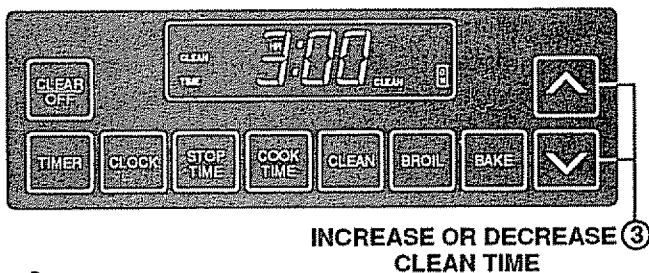

Fig. 2
3. Press the UP or DOWN arrow pad to set the desired length of clean time. Clean time is normally 3 hours. You can change it between 2 and 4 hours, depending on how dirty the oven is. See Fig. 2.